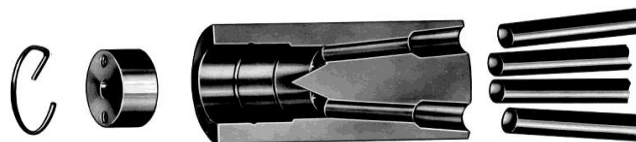

Figure Q3: A cross sectional drawing of a distributor.
- (a) An example of a distributor as shown in figure Q3. Draw a distributor on an evaporator. Your sketch drawing must base on the evaporator coil characteristic which it has 3 rows, 3 circuits and 3 inlets and outlets. (Sketching and labeling for every part are required). (10 marks)
- (b) Give two (2) functions of the distributor on the evaporator. (3 marks)